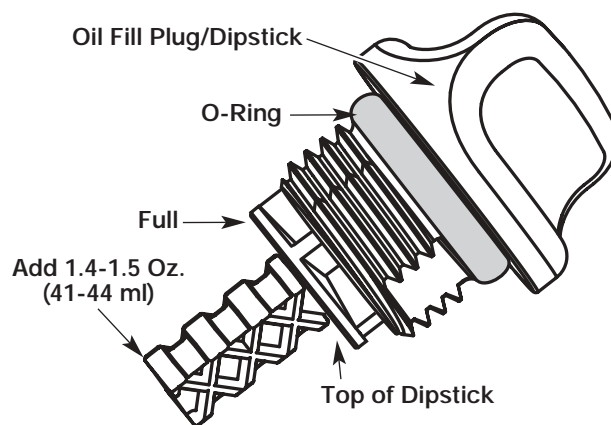

Fig. 52
5. Remove the oil fill plug/dipstick and check the oil level. Oil should be up to the top of the dipstick (Fig. 52).